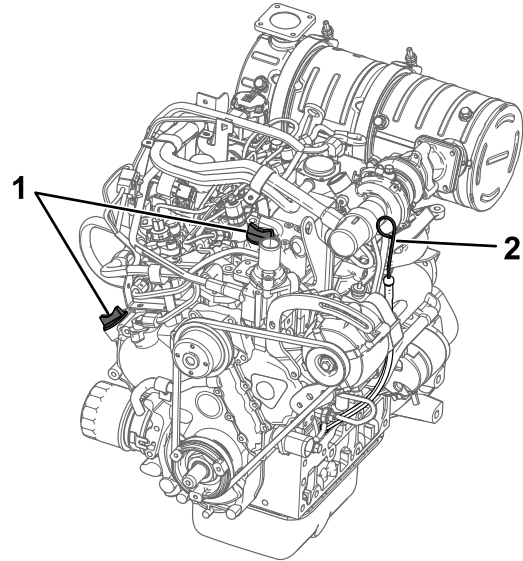

Figure 48
4. Clean the area around the oil dipstick and oil-fill cap (Figure 48).